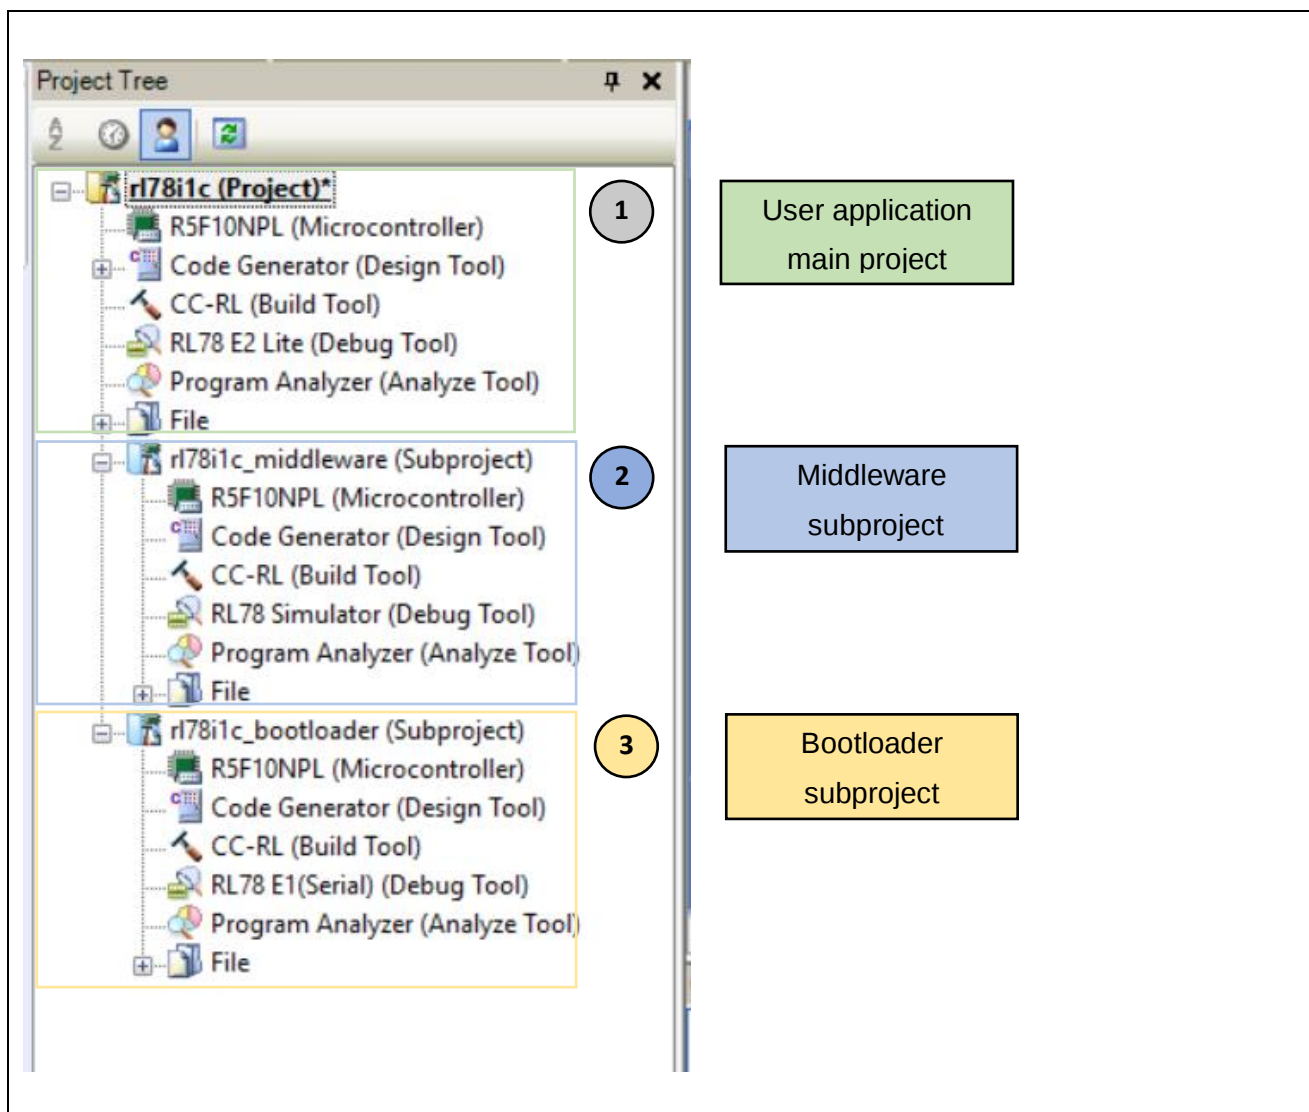

Figure 4-1 : Project Configuration
The numbers (1), (2), and (3) above indicate the correspondence with each project in Figure 4-1.
This section describes how to allocate ROM and RAM for the rl78i1c project (Figure 4-1 (1)).
This section describes how to allocate ROM and RAM for the rl78i1c_middleware subproject (Figure 4-1 (2)). The allocation method is shown below for CS+ and e2studio respectively.
This section describes how to allocate ROM and RAM for the rl78i1c_bootloader subproject (Figure 4-1 (3)). The allocation method is shown below for CS+ and e2studio respectively.